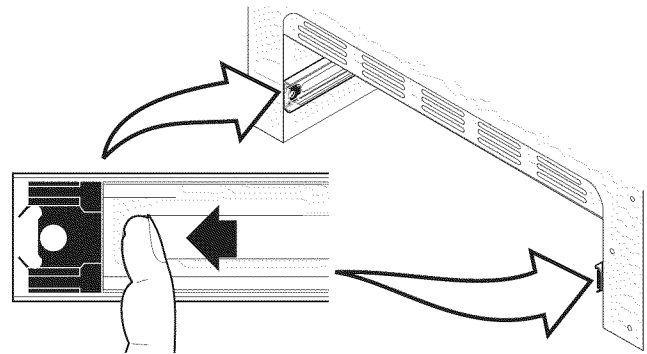

Figure 30: Bearing glide placement
1. Pull the bearing glides to the front of the outer compartment glide channels until they snap into place (See Figure 30).